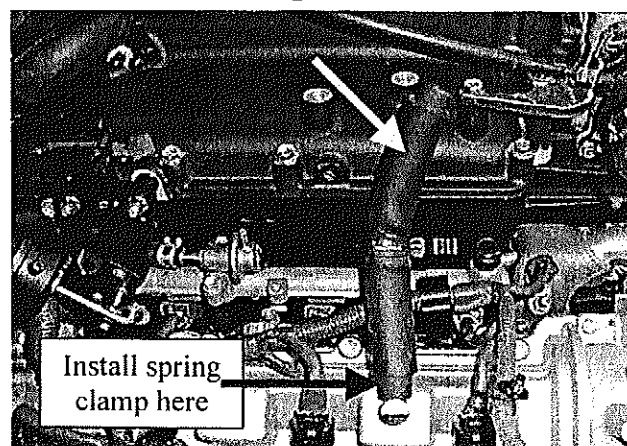

Figure 39
31. Install the factory breather hose on the passenger's-side cam cover. Connect it to the cam cover only at this time (Figure 39).